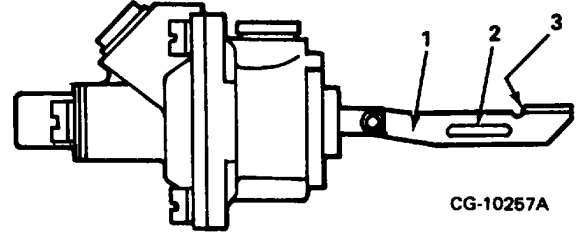

Figure 7. Aneroid Assembly
4. Turn aneroid assembly slightly counterclockwise and unlock link from rocker arm guide pin before trying to remove (Figures 7 and 8).